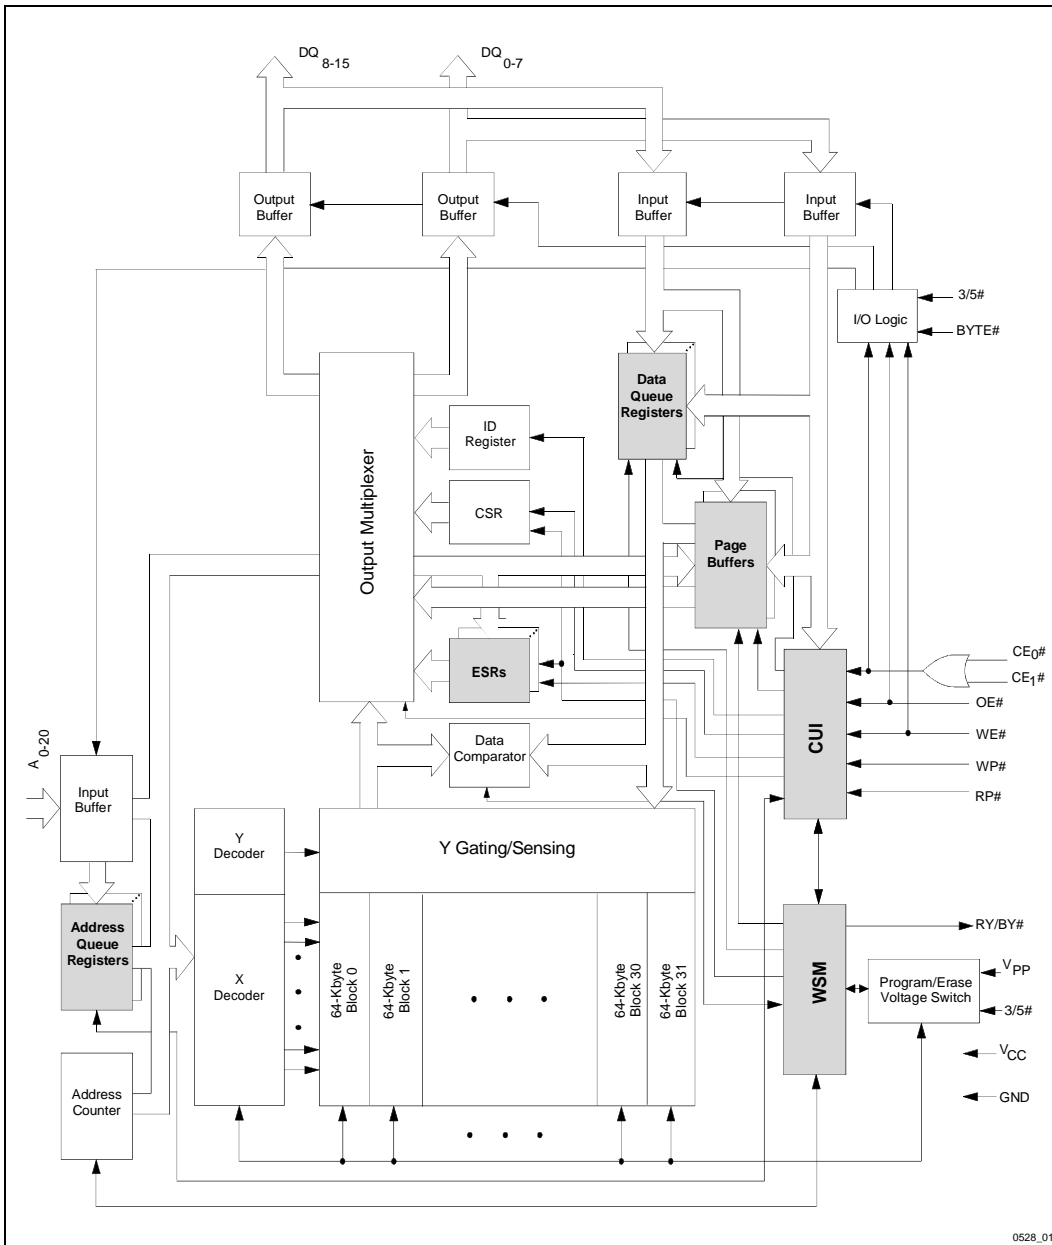
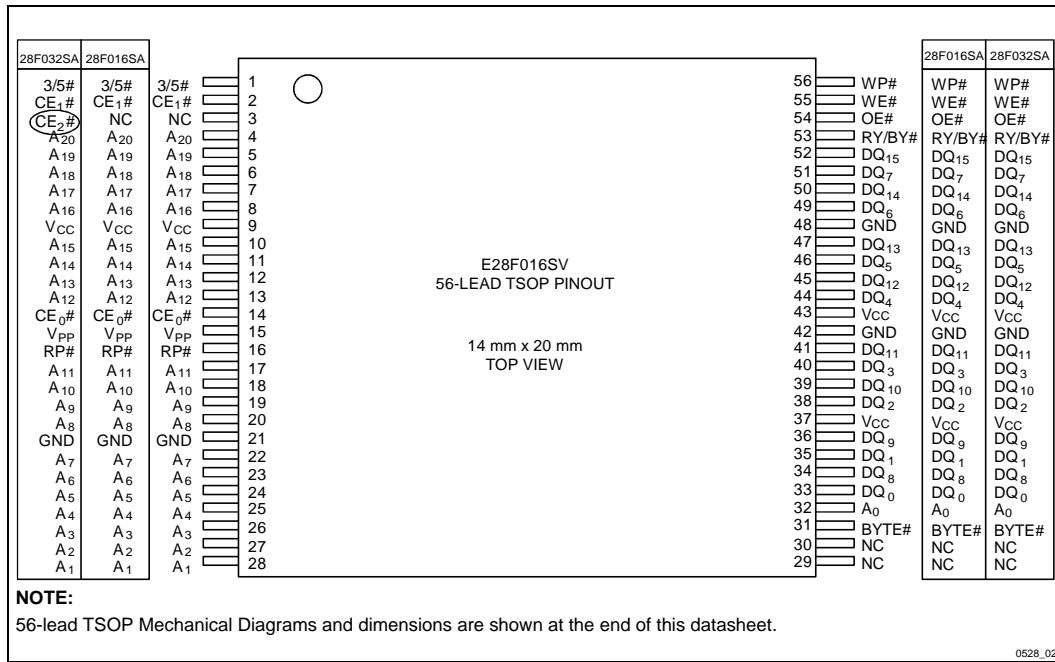

Figure 1. 28F016SV Block Diagram
Figure 2. 28F016SV 56-Lead TSOP Pinout Configuration Shows Compatibility with 28F016SA/28F032SA
-004	<p>Added 3/5# pin to Block Diagram (Figure 1), Pinout Configurations (Figures 2 and 3), Product Overview (Section 1.1) and Lead Descriptions (Section 2.1)</p> <p>Added 3/5# pin to Test Conditions of ICCS Specifications</p> <p>Added 3/5# pin (Y) to Timing Nomenclature (Section 5.5)</p> <p>Increased t_{PHQV} Specifications at 5V V_{CC} to 400 ns for E28F016SV 065 devices and 480 ns for E28F106SV 070 devices.</p> <p>Modified Power-Up and Reset Timings (Section 5.9) to include 3/5# pin: Removed t_{5VPH} and t_{3VPH} specifications; Added t_{PLYL}, t_{PLYH}, t_{YLPH}, and t_{YHPH} specifications</p> <p>Added t_{PHL3} and t_{PHL5} specifications to Power-Up and Reset Timings (Section 5.9)</p> <p>Corrected TSOP Mechanical Specification A₁ from 0.50 mm to 0.050 mm (Section 6.0)</p> <p>Corrected SSOP Mechanical Spec. B (max) from 0.20 mm to 0.40 mm (Section 6.0)</p> <p>Minor cosmetic changes throughout document.</p>
A significant 28F016SV change occurred between datasheet revisions 290528-003 and 290528-004. This change centers around the addition of a 3/5# pin to the device's pinout configuration. Figures 2 and 3 show the 3/5# pin assignment for TSOP and SSOP Type 1 packages. Intel recommends that all customers obtain the latest revisions of 28F016SV documentation.
order address and address A_0 is not used (don't care). A device block diagram is shown in Figure 1.
The 28F016SV 56-lead TSOP and 56-lead SSOP Type I pinout configurations are shown in Figures 2 and 3.